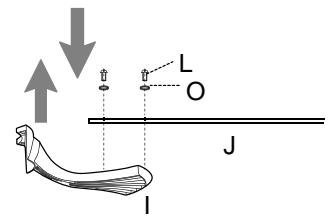

Fig. 2
2. Position blade arm (I) under blade (J) and secure blade arm (I) with screws (L) and washers (O). Do not tighten screws (L) until each screw (L) has been started. Then, tighten each screw (L) starting with the center screw (L). Repeat for the remaining blades (J). [Fig. 2]